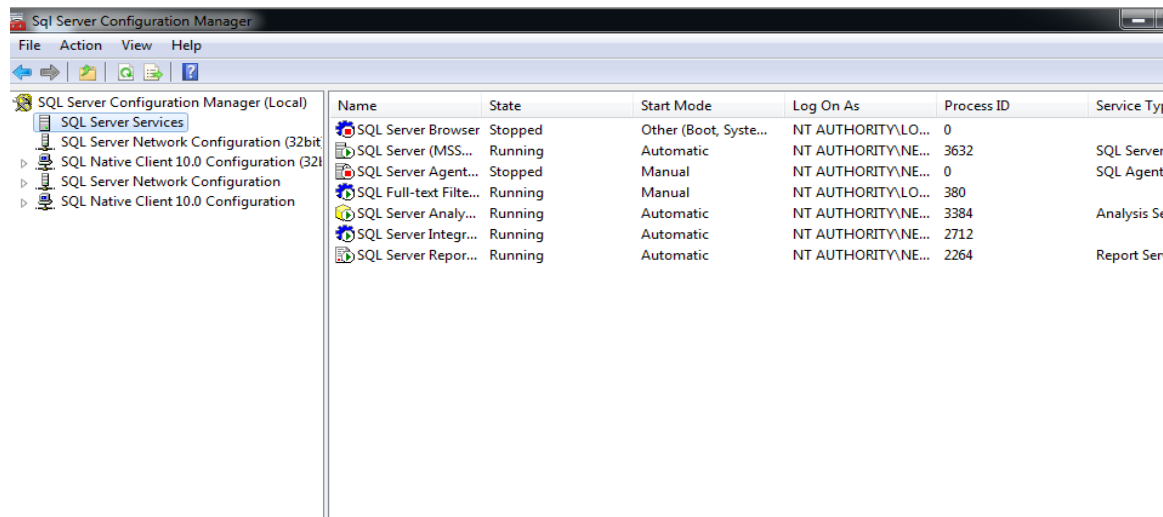

Fig.1.10 Sql Server Configuration Manager
**Step Nine:** Click the “Start” to open SQL Server Configuration Manager , choose “SQL Server Services” on the left, please make sure the state of “SQL Server” and “SQL Server Browser” is running on the right (see Fig.1.10).